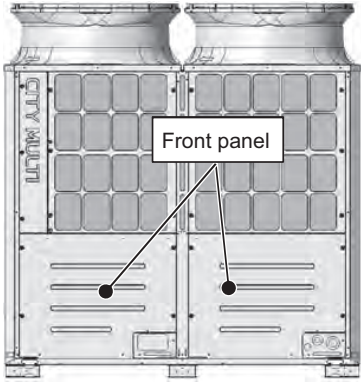

Figure 1
- (1) Remove the front panel from the unit by unscrewing the 14 screws. (See Figure 1.) \*Figure 1 shows the unit without the front panel.
- (2) Remove the fin guard by unscrewing the 12 screws. (See Figure 1.)
- (4) Remove the center pillar by unscrewing the five screws. (See Figure 1.)
- (1) Remove the front panel from the unit by unscrewing the 14 screws. (See Figure 1.)